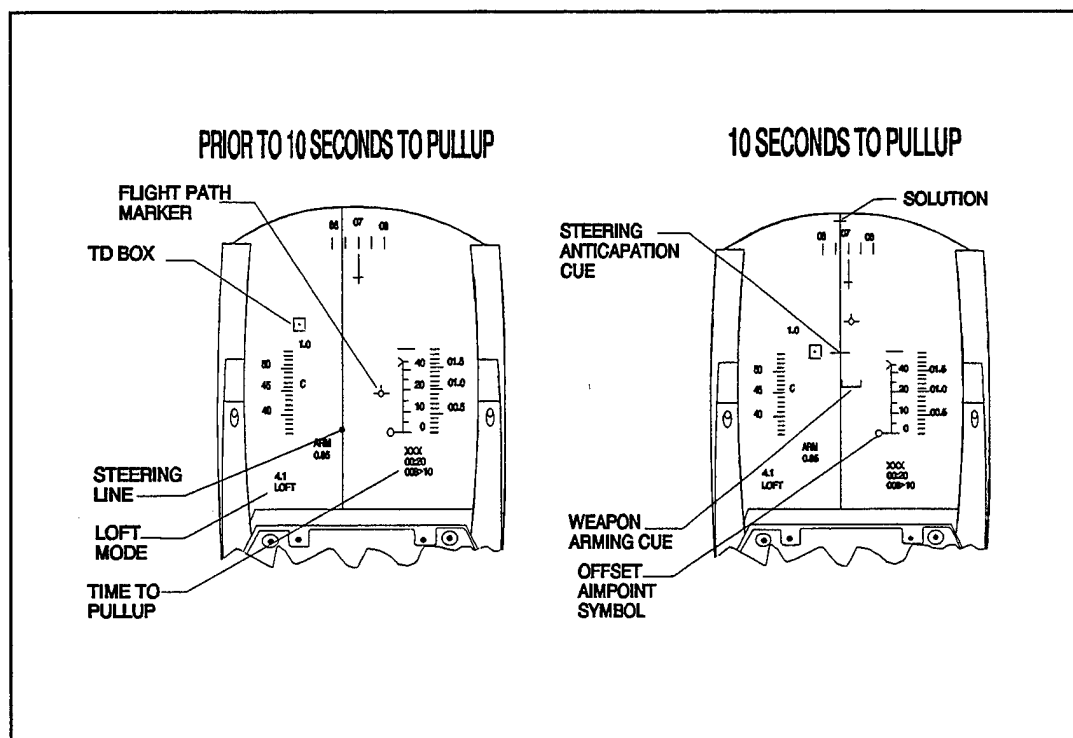

FIGURE 3.14 Loft Mode Symbology
(1) When using the LOFT delivery mode, you must enter a planned release angle (PRA) and a minimum release altitude (MRA) into the SMS via the SCP. If the MRA above ground level (AGL) is a nonzero value, a release will not occur below the entered value of altitude (AGL). The PRA for this event will be 30 degrees and MRA of 500 ft AGL.
(2) The HUD LOFT display includes a target symbol that represents the target location and a diamond symbol that represents the offset aimpoint location (if selected). The FCC computes azimuth and elevation steering commands and transmits them to the HUD and REO displays. The pilot uses these azimuth and elevation commands to fly the aircraft toward the release point. At 10 seconds to go to pullup, the pullup anticipation cue is displayed on the HUD and moves toward the FPM. The solution cue is displayed at the top of the Bomb Fall Line (BFL) and indicates the relative time to release. If a low-drag weapon is selected, the release angle scale (RAS) is also displayed, offsetting the altitude scale. To the left of the RAS a horizontal line is positioned at the planned release angle. A caret is also displayed that represents the angle that release would occur if a 4g pullup was initiated at that moment. When time to go to pullup equals zero the pullup anticipation cue resets below the FPM and becomes the pullup steering cue. A 30-milliradian circle is positioned half the distance between the PRA and the FPM as a guidance to the PRA.
(3) If the pilot depresses and holds the WPN REL (pickle button) switch, the FCC will generate an automatic release signal when calculated conditions are obtained and the altitude is greater than the entered value of the minimum release angle. LOFT symbology is illustrated in Figure 3.14.